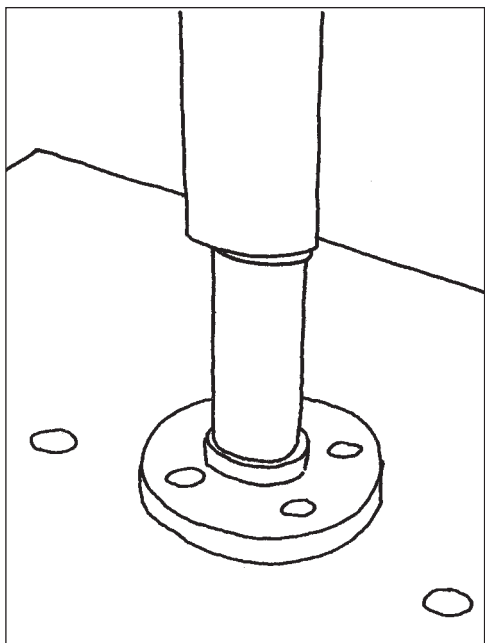

Figure 16
3. Press the salt seal into the bearing cap cover until it is flush with the cover. Make sure the lip of the seal faces out. Pack the area between the salt seal and the oil seal with grease (**Figure 16**).